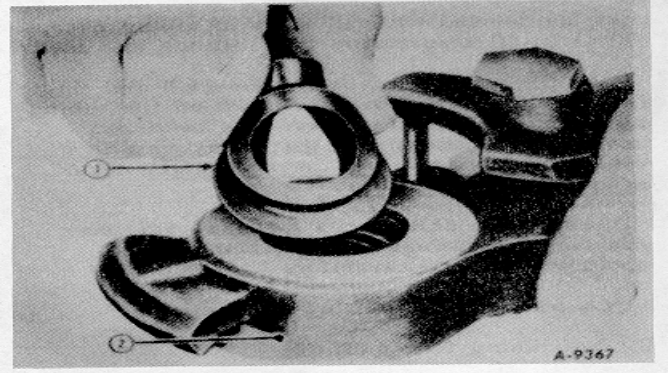

Fig. 8 Installing Packing Ring In Hose Coupling
3. Install new packing ring by partially collapsing it with the fingers, (Fig. 8) and entering one side of flange in groove in coupling.